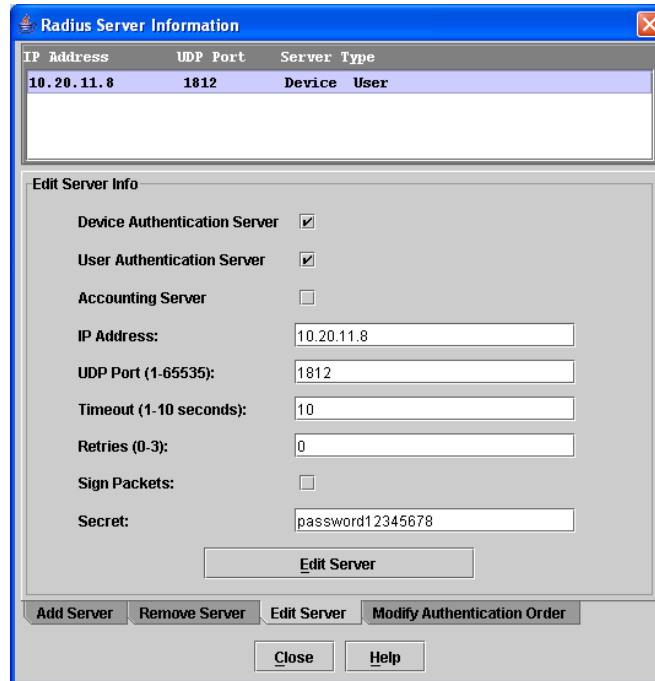

Figure 3-3. Edit Server Information
2. In the Radius Server Information dialog, shown in Figure 3-3, click the **Edit Server** tab.